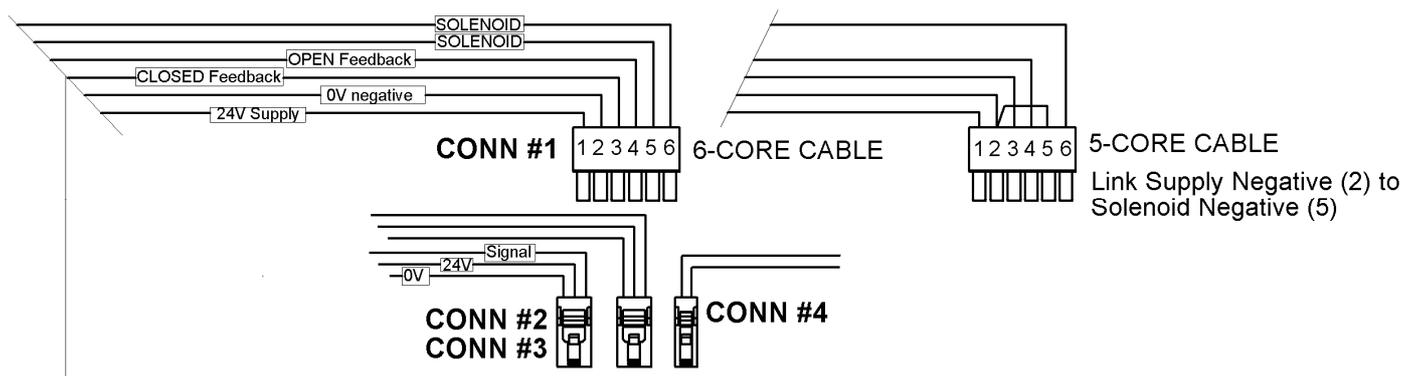

Fig 12: DC Electrical connection screw terminals, example PNP connection
- ⇒ Twist each core firmly and fold in half before fitting to the terminals of the 6-way header plug, the correct location for each core is printed on the rear of the module, as below in Fig 12.